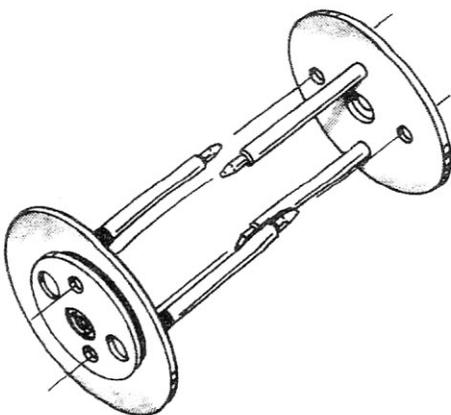

Figure 3-4. Paperwinder Take-up Reel
- (1) Turn the Paperwinder and Teleprinter Power Switches to their OFF positions.
- (2) Support the underside of the paper wrapped around the Paperwinder Take-up Reel with one hand , and with the other hand pull outward on the Reel Release Knob.
- (3) While still holding the Reel Release Knob, move the Take-up Reel toward the Reel Release Knob to free the left reel hub from the motor drive shaft.
- (4) When the left reel hub has cleared the motor drive shaft, remove the Paperwinder Take-up Reel from the Paperwinder Mounting Bracket and release the knob.
- (5) Vertically position the Paperwinder Take-up Reel on a flat surface and pull upward on the top reel disc, separating the two parts of the Take-up Reel as shown in Figure 3-4. The paper can now be removed.
- (6) Re-assemble the Paperwinder Take-up Reel by inserting the tapered ends of each pair of rods into their respective holes on the opposite reel disc. See Figure 3-4.